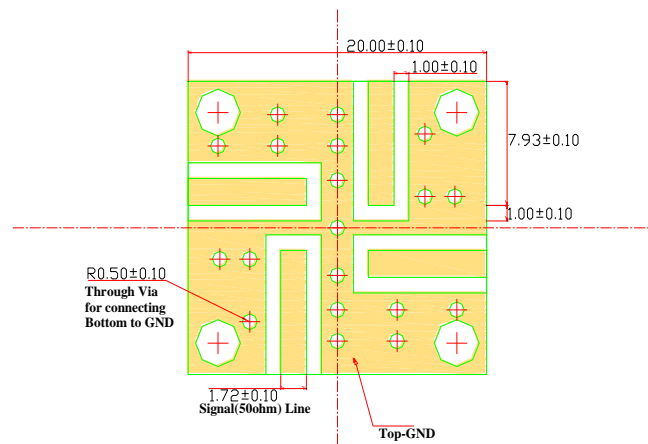

Figure 6. RN2 Test Board Layout
**Figure 6** shows the RN2 test board layout used for testing the CMX21Q03 RF performance. The RN2 test board is based on the Taconic RF35 board with the dielectric constant of 3.5, board thickness of 0.8 mm, and copper of 1 Oz.
We recommend that you use the same material and design layout, as shown in **Figure 6**, to meet the specifications in this datasheet. However, if you use different materials, you must follow the basic guidelines. See ‘RECOMMENDED PCB LAYOUT AND SOLDER MASK PATTERN’ for more details.